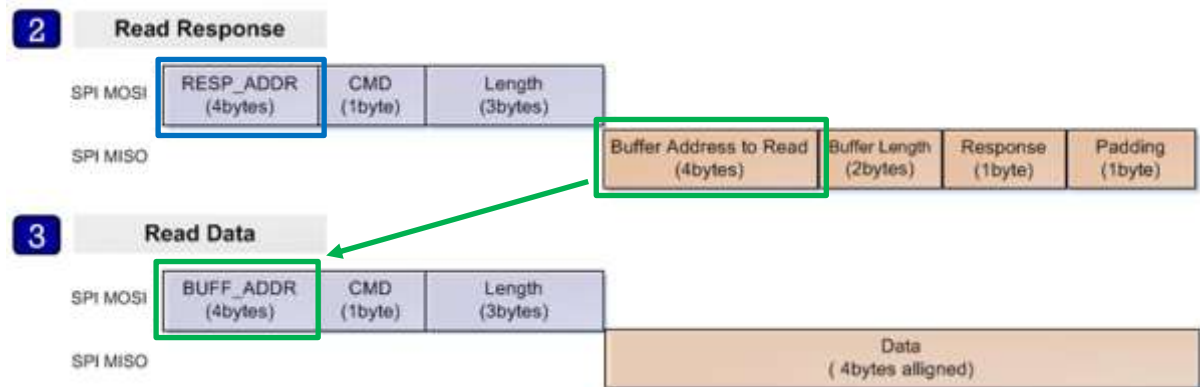

Figure 5: Structure for Read Operation
2. The Host reads the response message from Response Command address (0x50080258, blue rectangle in Figure 5), and parse it using `struct _st_host_response`. (see Table 4).
3. The Host reads data from address (BUFF_ADDR) which is received from Slave in the response message. (Green rectangle in Figure 5)